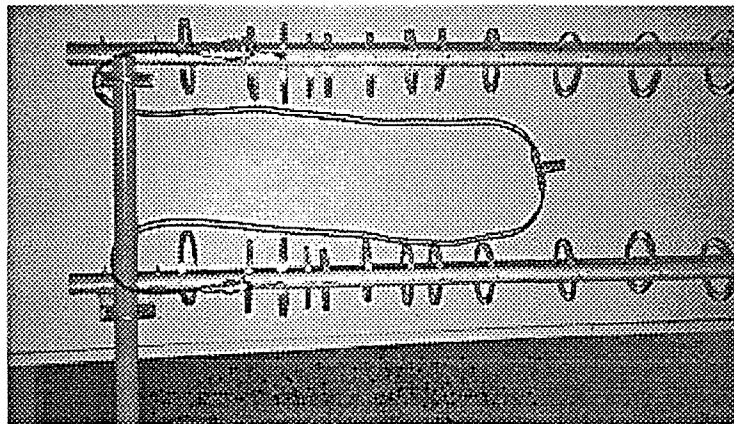

Fig.3.2 Stacked Yagi antenna
3.2 The stacked Yagi antenna system. This is the antenna used to receive the video signal transmitted by the camera on the AHSR vehicle. The antenna is optimized for frequencies in the vicinity of 1 GigaHertz. Two identical antennas are stacked on the same mast to increase the signal strength received from the antenna system. These antennas were manufactured by Down East Microwave Company. This antenna is shown in Fig. 3.2.
that array. Connect equal lengths of coaxial cable (with male BNC connectors on both ends) from each array to the ends of a BNC "T" connector as shown in Fig. 3.2. A closeup of the BNC "T" connector is shown in Fig. 5.2.